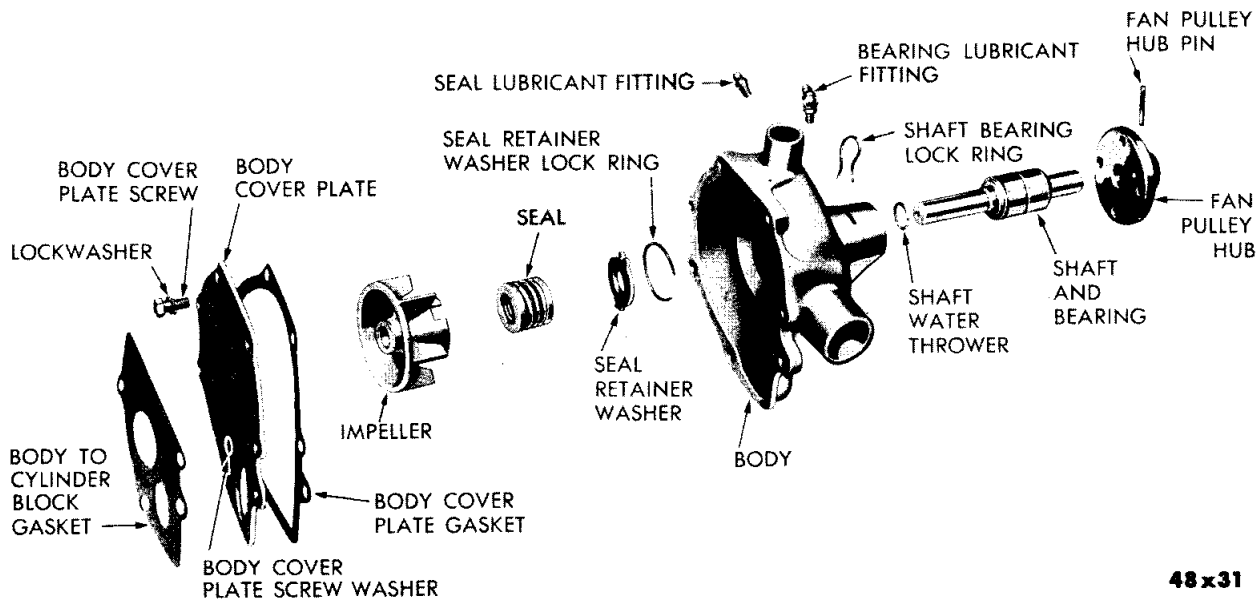

Fig. 7—Water Pump (Disassembled) (B-4-F, B-4-G, B-4-H, B-4-J, B-4-K)
4. DISASSEMBLY AND ASSEMBLY OF WATER PUMP (B-4-F, B-4-G, B-4-H, B-4-J, B-4-K) (FIG. 7)
- (2) Remove bearing lock ring (Fig. 7) and bearing grease fitting.
- (3) Remove water pump body back plate.
- (4) Drive out the impeller shaft through the front of the pump housing. Remove the impeller.